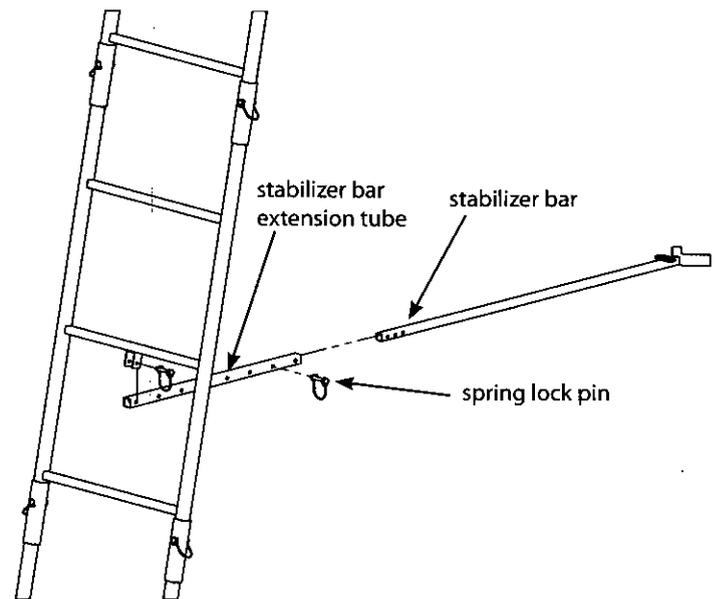

Figure 14
22. a. Attach the stabilizer bar extension tube (1ML23) to the second ladder section mounting bracket using (1) provided spring lock pin. **SEE FIGURE 14.**
- b. Slide the stabilizer bar (L17) into the extension tube and attach the two pieces together using (1) provided spring lock pin. Spring lock pin must go through both the extension tube and stabilizer bar at appropriate hole to achieve desired distance from tree. Adjustment in length may be needed when ladder is uprighted later in instructions. **SEE FIGURE 14.**